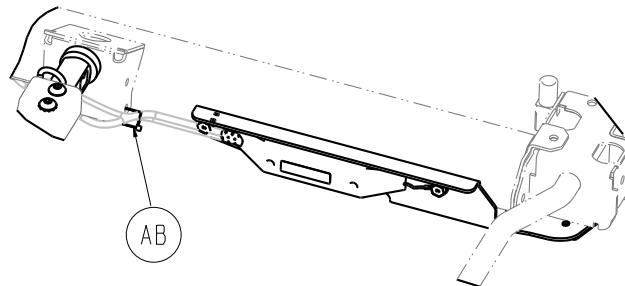

Figure 47 – Cable tie location - IR/nurse call assembly
23. Using a supplied 8" cable tie (3000-300-113) (AB), secure the IR/nurse call assembly cable to the litter frame (Figure 47).